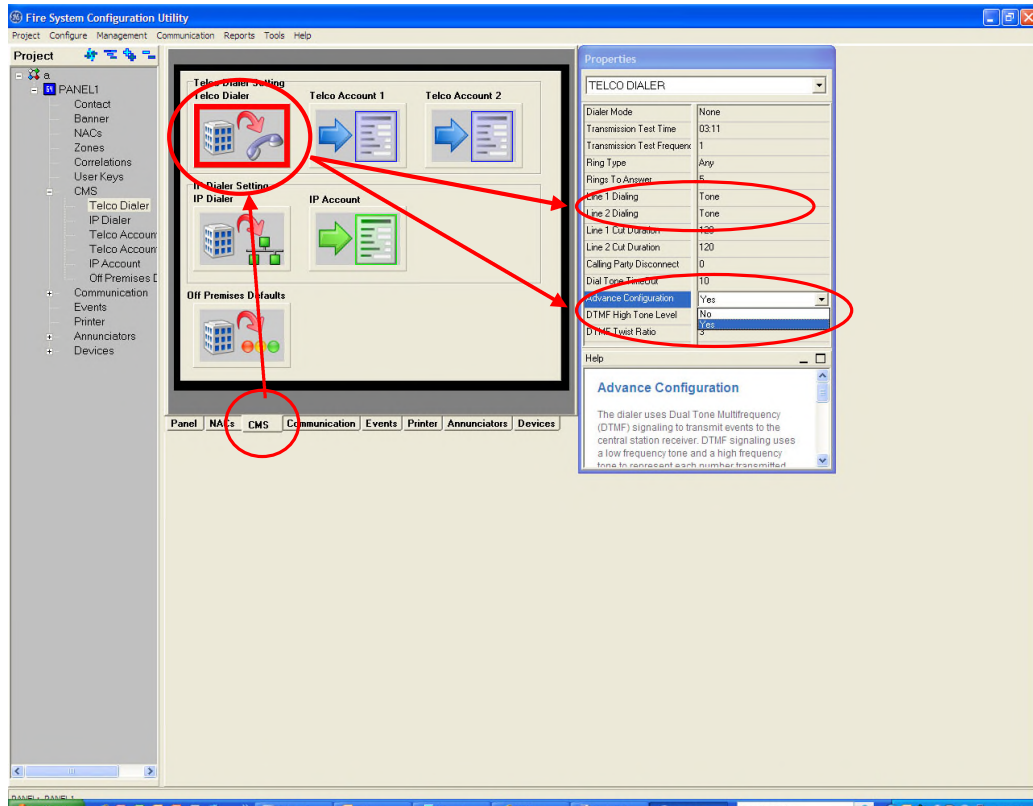

Figure 1: Adjusting Tone/Pulse Dialing, DTMF High Tone Level and Twist Ratio
3. Try changing the dialer configuration Line 1(2) Dialing Type from Tone to Pulse (see figure 1). This change can also be made using the panel's keypad and entering the dialer programming section.
5. Two other adjustments you may have to make are the DTMF High Tone Level and/or the DTMF Twist Ratio (see figure 1). These settings can only be changed using the FSA-CU configuration utility program (not via the panel's keypad), and are not available with the conventional E-FSC panel's F-DACT. To access the DTMF settings in the FSA-CU, you will need to change the Advance Configuration setting in the Telco Dialer Properties box from No to Yes. This will then display the two options. You may have to try different settings until you get a successful connection and sign off with the central station. Some people have found adjusting both the DTMF High Tone Level and the Twist Ratio to 10 works best. You will have to determine what works with the GSM or TCP/IP interface you're using.